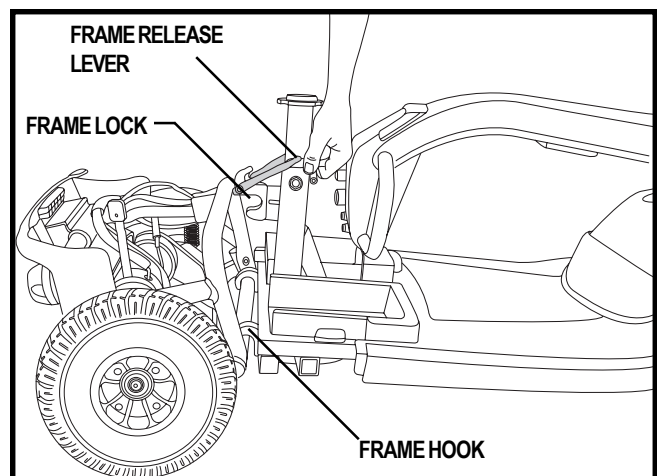

Figure 23. Frame Release
2. Lift up on the frame release lever. See figure 23.
3. Lift the front section up until the frame hooks of the front section separate from the rear section. See figure 23.
3. Once the frame hooks are over the lower frame tube, lower the front section completely. This will engage the frame lock. See figure 23.